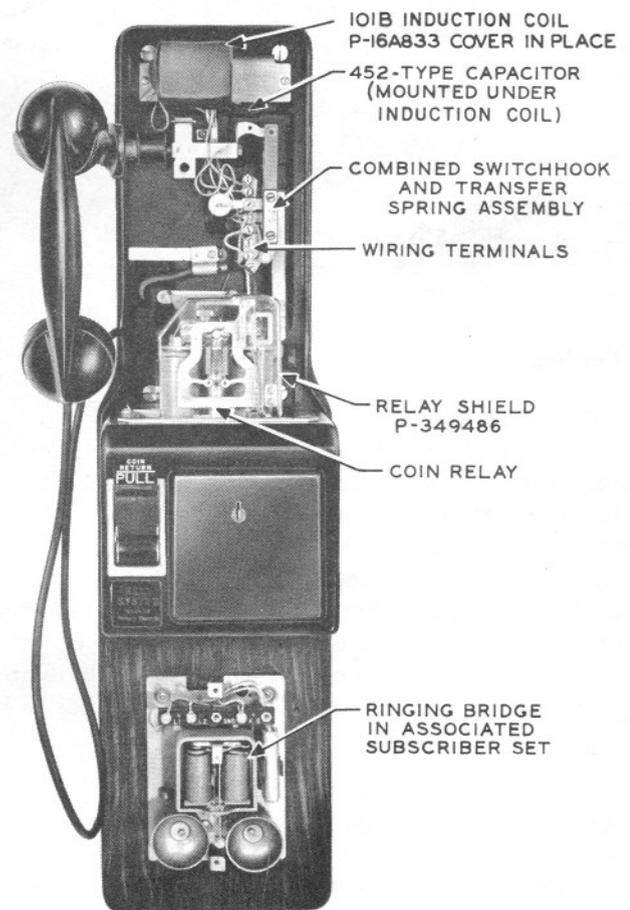

Fig. 4 — Combined Assembly with Induction Coil and Capacitor
3.03 Cording shall be arranged in a manner which will eliminate the possibility of interference with gongs, coin channels, or any moving part. Spade tip or wire connections shall not touch any framework or termination point other than the one intended. Examples of cord clamps and wire guides, clamps, and holders are shown in several figures in this section. Handset cords at the present time are secured by P-12A096 clamps as shown in Fig. 4 and 5. Previously, they were anchored by stay loops, hooks, or cords.